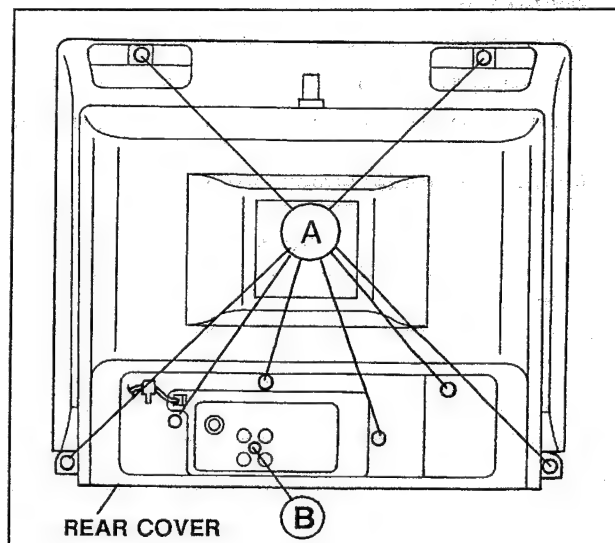

Fig. 1
2. Remove the eight screws marked (A) as shown in Fig. 1.
2. Remove the one screw marked (B) as shown in Fig.1.